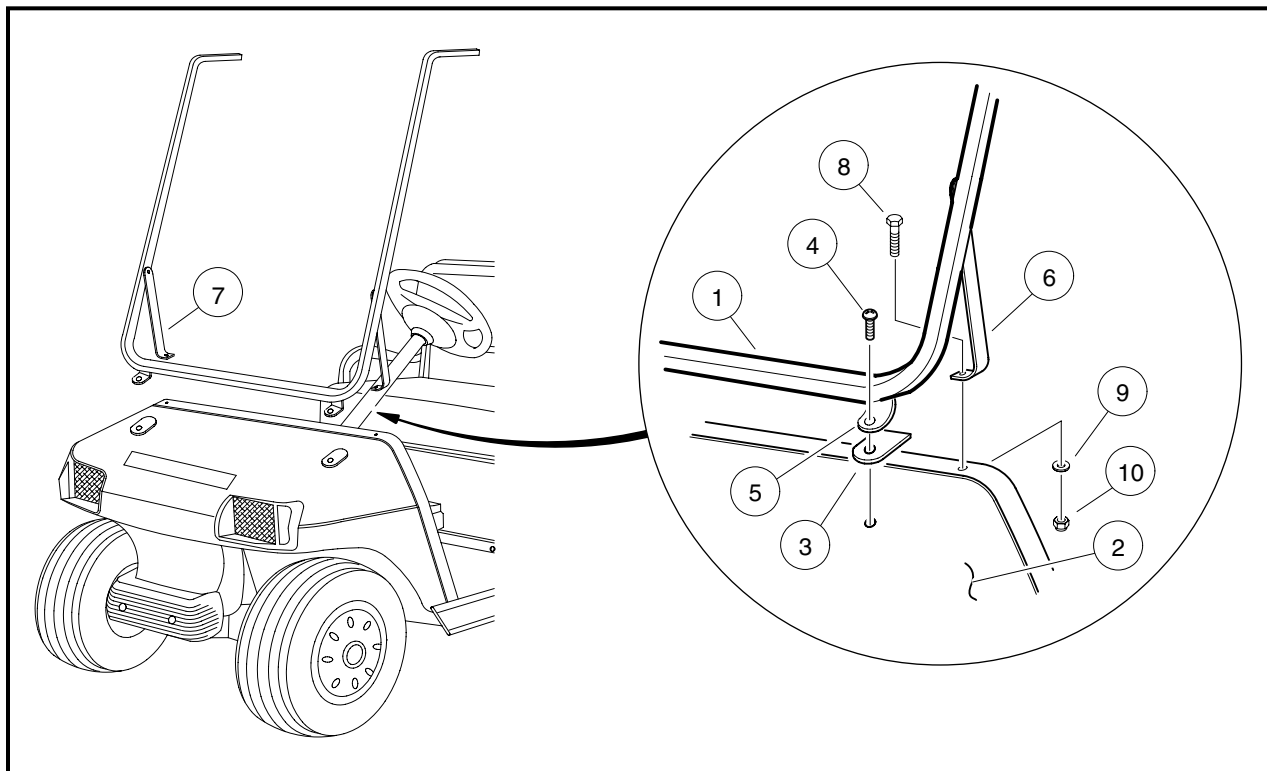

Figure 4 Mount Windshield Frame
3. Place a windshield frame mounting pad (3) between each lug (5) on the windshield frame (1) and front body (2) (**Figure 4**). Secure windshield frame (1) and two mounting pads (3) to front body with two 5/16 x 1-1/4 hex-head screws with patch (4). Tighten screws to 45 in-lb (5 N-m).
4. Secure the left and right knee braces (6 and 7) with new 5/16-18 x 1-1/2 hex-head cap bolts (8), and previously removed flat washers (9) and nuts (10) (**Figure 4**). Tighten bolts to 45 in-lb (5 N-m).